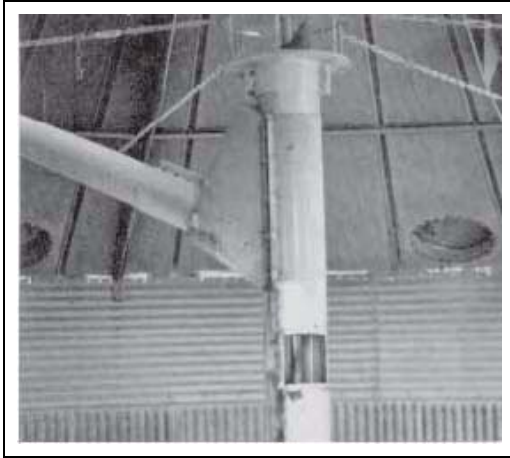
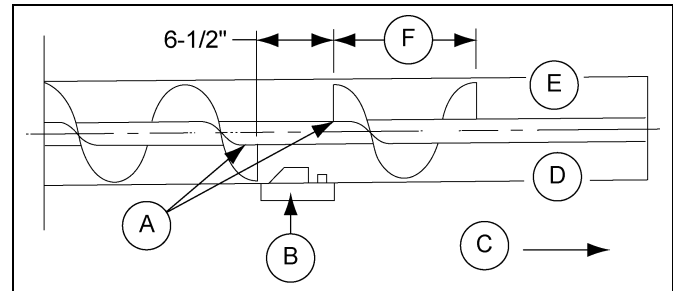

Figure 16A
Figure 16B
1. Look at the discharge tube and determine where the sensor can be best located. See Figure 16B on Page 111. There must be at least 8" of flighting left on the discharge auger after the sensor to move the grain away. On center vertical unloading systems, the sensor is mounted near the top but NOT directly below the attaching incline auger. Use the same dimensions as described for the horizontal. (See Figure 16A and Figure 16B.)
3. Weld the discharge auger flighting to the shaft at each end of the 6-1/2" opening as shown in Figure 16B. After the flight is welded at these points, cut-out 6-1/2" of the flighting from the discharge auger.